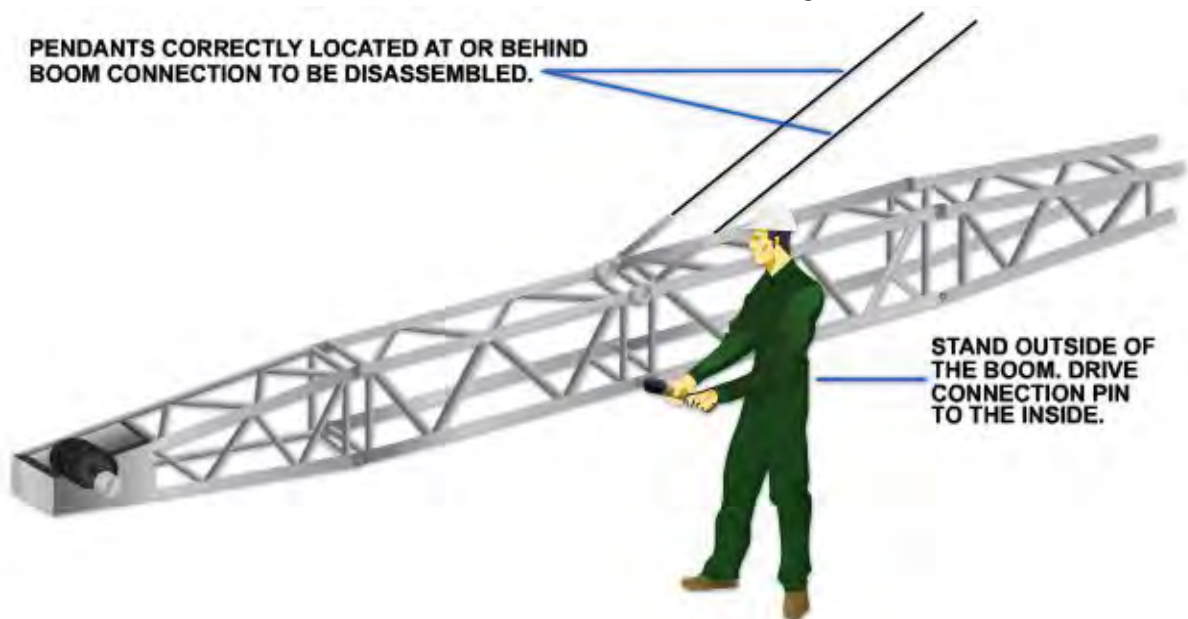

Figure 21-17 – Drive connection pins from outside in.
- When removing or installing the boom section, drive the connection pins from the outside of the boom toward the inside, as shown in *Figure 21-17*.